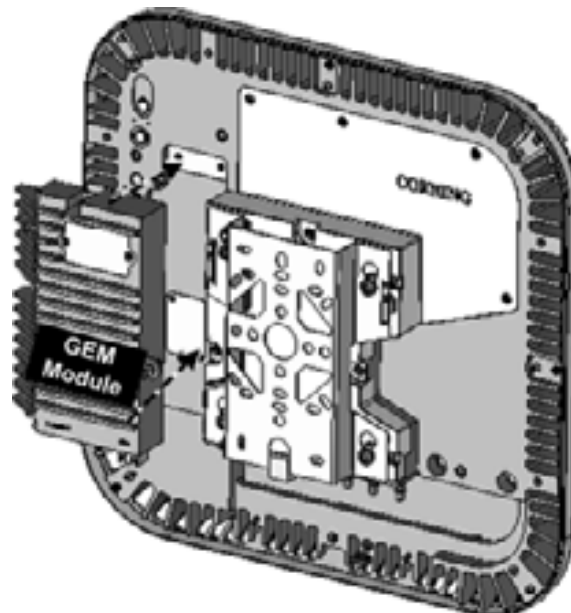

Figure 7-6. GEM Module Assembly
2. Plug GEM into the left side of the RAU, as shown in Figure 7-6 and secure the four GEM screws.